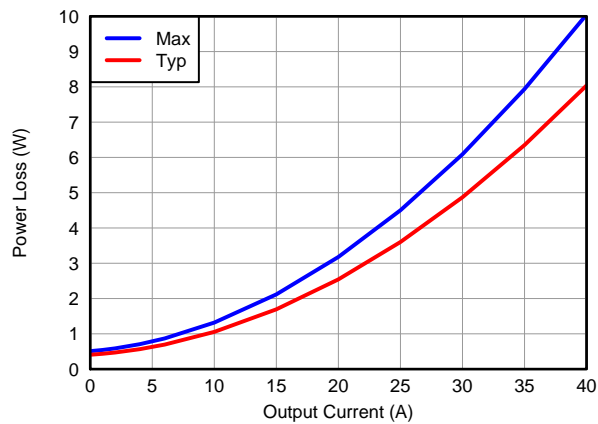

Figure 7. Power Loss vs Output Current
MOSFET centric parameters such as  $R_{DS(ON)}$  and  $Q_{gd}$  are primarily needed by engineers to estimate the loss generated by the devices. In an effort to simplify the design process for engineers, Texas Instruments has provided measured power loss performance curves. Figure 7 plots the power loss of the CSD97370Q5M as a function of load current. This curve is measured by configuring and running the CSD97370Q5M as it would be in the final application (see Figure 18). The measured power loss is the CSD97370Q5M device power loss which consists of both input conversion loss and gate drive loss. Equation 1 is used to generate the power loss curve.
The power loss curve in Figure 7 is measured at the maximum recommended junction temperature of  $T_J = 125^\circ\text{C}$  under isothermal test conditions.
- Typical Power Loss at 25A = 3.5W (Figure 7)